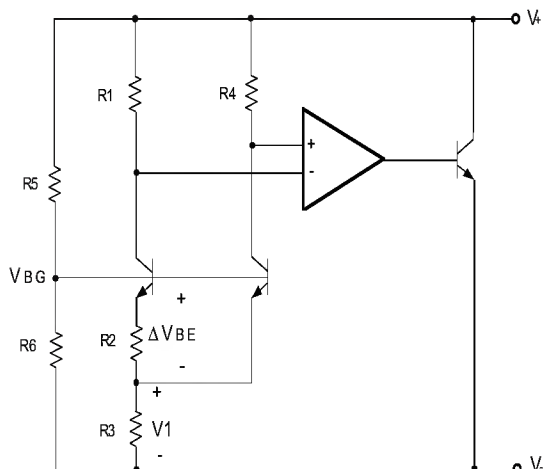

Figure 7. AD1586/7/8/9 Simplified Schematic
The AD 1586/7/8/9 family uses the "bandgap" concept to produce stable, low-temperature coefficient voltage references which are suitable for high accuracy data-acquisition components and systems. This family of precision references makes use of the underlying temperature characteristics of a silicon transistor's base-emitter voltage in the forward-biased operating region. Under this condition, all such transistors have a $-2 \text{ mV}/^\circ\text{C}$ temperature coefficient (TC) and a V_{BE} that, when extrapolated to absolute zero, 0°K , (with collector current proportional to absolute temperature) approximates the silicon bandgap voltage. By summing a voltage that has an equal and opposite temperature coefficient of $+2 \text{ mV}/^\circ\text{C}$ with the V_{BE} of a forward-biased transistor, a zero TC reference can be developed. In the AD 1586/7/8/9 simplified circuit diagram shown in Figure 7, such a compensating voltage, V_1 , is derived by driving two transistors at different current densities and amplifying the resultant V_{BE} difference (ΔV_{BE} - which has a positive TC). The sum (V_{BG}) of V_{BE} and V_1 is then scaled by the R_5/R_6 resistor network to produce stable reference voltage outputs of 2.5V, 3V, 4.096V, and 5V. To ensure that the bandgap cell and resistor network maintain their required current levels, a buffer amplifier drives an output transistor to sink any excess current.